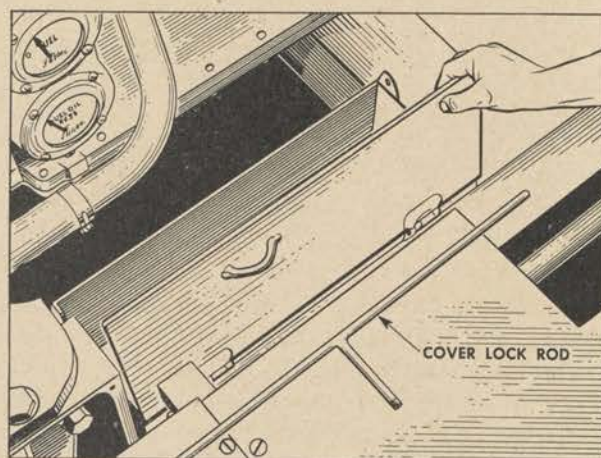

Figure 89. Stowage space, Diesel engine tools.
a. **TOOLS.** A metal box, provided for the stowage of the tools for the main Diesel engine, is located at the level of the machinery room floor plates near the Diesel engine clutch operating lever. (See fig. 89.) Store other tools in the recess under the hinged floor plate located at the door of the sleeping quarters, next to the deck house bulkhead.